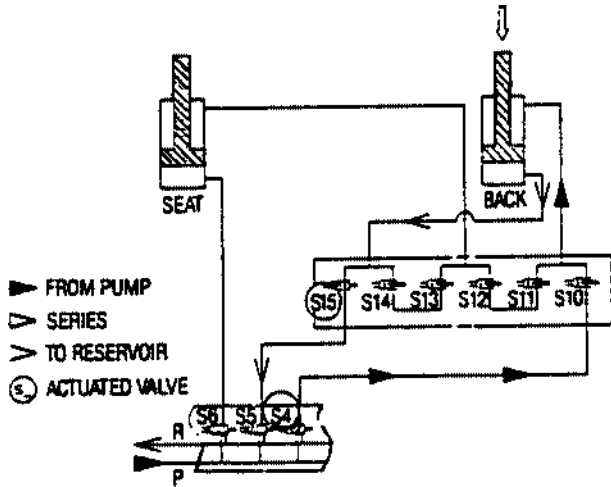

Figure 6-16. Back Down Schematic
• Back Up/Down (Figures 6-16 and 6-17)